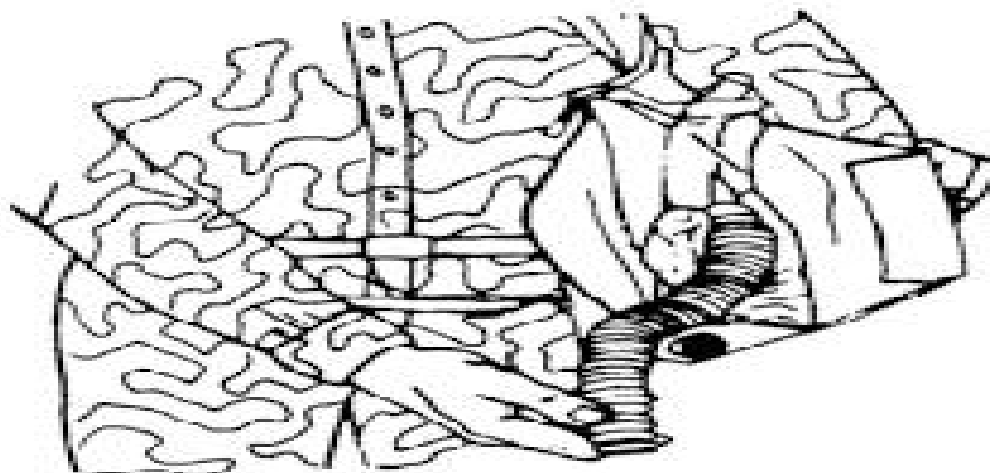

Figure E-76. Stowing protective mask.
- b. Ensure that the hose is pointing toward the opening (figure E-76).